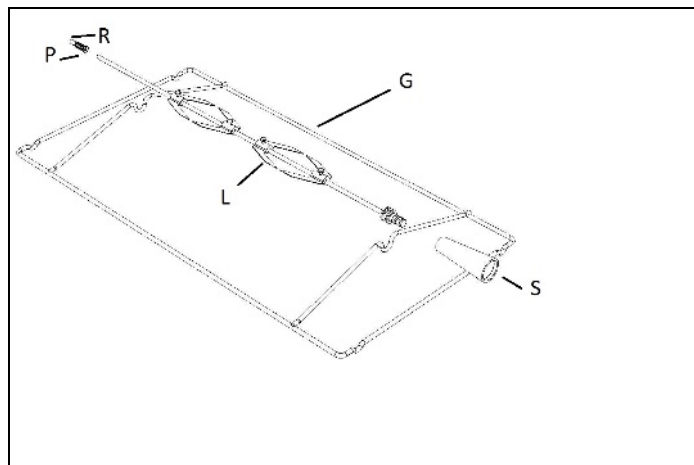

Fig. 23
- **Grilling with rotisserie (if applicable):** This function is used for grilling using the rotisserie spit (Fig. 23). Fit the spit support (G) onto the side runners at level 3. Put the food on the spit and place the entire assembly in the oven, engaging the tip of the spit with the shaft which projects on the left side of the oven and resting the ends of the spit in the seat provided in the support. Insert the pan on the runners at a lower level, switch the thermostat to the relative position and press the button with the rotisserie symbol (electric oven version).